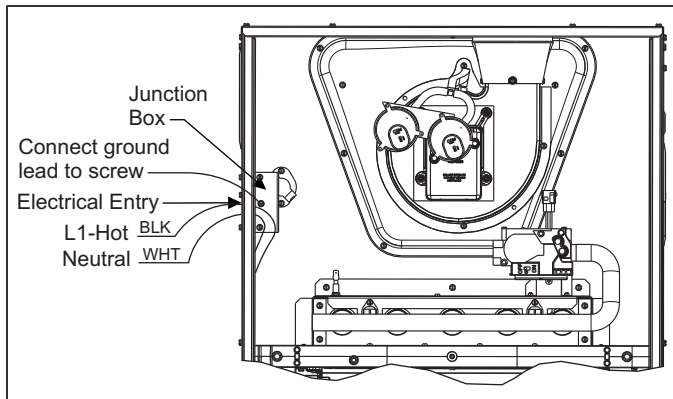

FIGURE 11: Electrical Wiring
2. Remove the screws retaining the wiring box cover. Route the power wiring through the opening in the unit into the junction box with a conduit connector or other proper connection. In the junction box there will be 3 wires, a Black Wire, a White Wire. Connect the power supply as shown on the unit-wiring label on the inside of the blower compartment door or the wiring schematic in this section. The black furnace lead must be connected to the L1 (hot) wire from the power supply. The white furnace screw must be connected to neutral. Connect the power supply ground to the green screw (equipment ground) An alternate wiring method is to use a field provided 2" (5.1 cm) x 4" (10.2 cm) box and cover on the outside of the furnace. Route the furnace leads into the box using a protective bushing where the wires pass through the furnace panel. After making the wiring connections replace the wiring box cover and screws. Refer to Figure 11.
3. The furnace's control system requires correct polarity of the power supply and a proper ground connection. Refer to Figure 11.